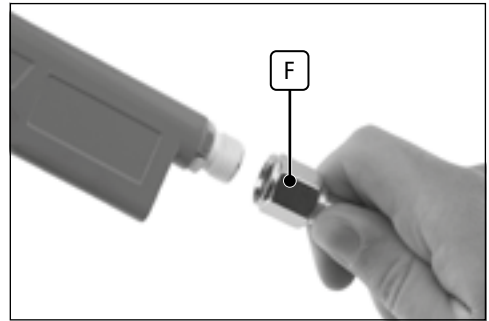

Fig. 9
4. Screw the 1/4" air line coupler **F** onto the spray gun air inlet (Fig. 9).